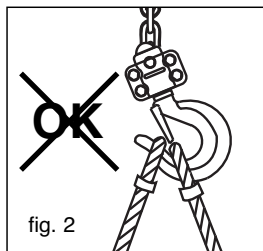

fig. 2
1. the anchoring accessory of the load sits fully in the hook and does not prevent the catch from closing correctly (see figs. 2 and 3).